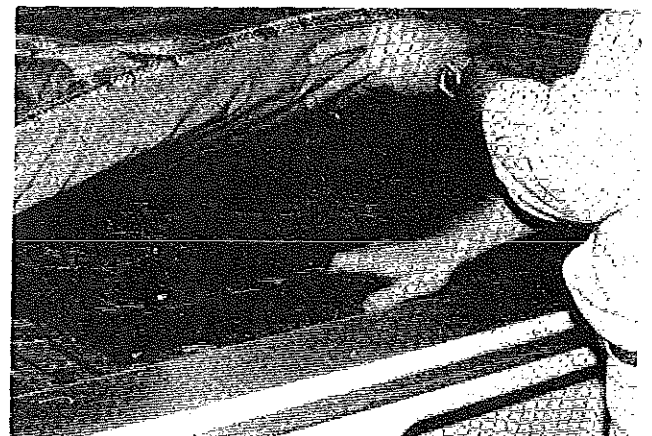

FIGURE 10
17. Remove the two portable bed supports from their stowage location under the front mattress. See Figure 10. Standing at the front of the trailer, locate the four support holes on the top edge of the front body rail (two holes on each side). Taking the first support, carefully insert the two pins (located at one end of the support)
The portable bed supports may be folded up and stored under each mattress for travel. See Figure 10.